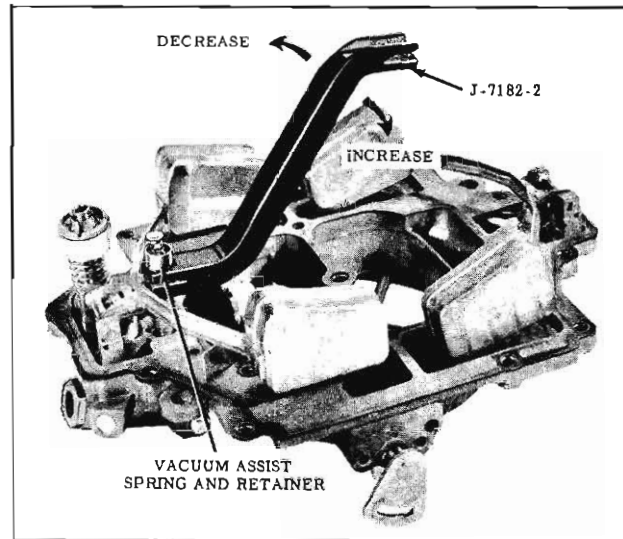

Fig. 4-22 Checking Primary and Secondary Float Drop
1. Position the air horn as shown in Fig. 4-22. Do not hold the power piston for this adjustment.